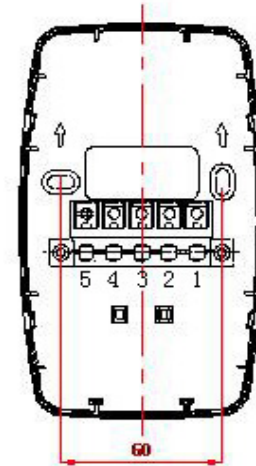
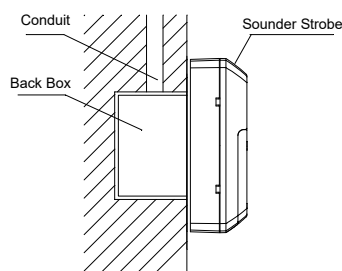

Fig. 2
Fig 3 Installation
Terminals on the base are shown in Fig. 2.
- ✧ The sounder strobe can be mounted on the back box. The mounting hole spacing and mounting direction are shown in Fig. 2. Mounting method is shown in Fig. 3.